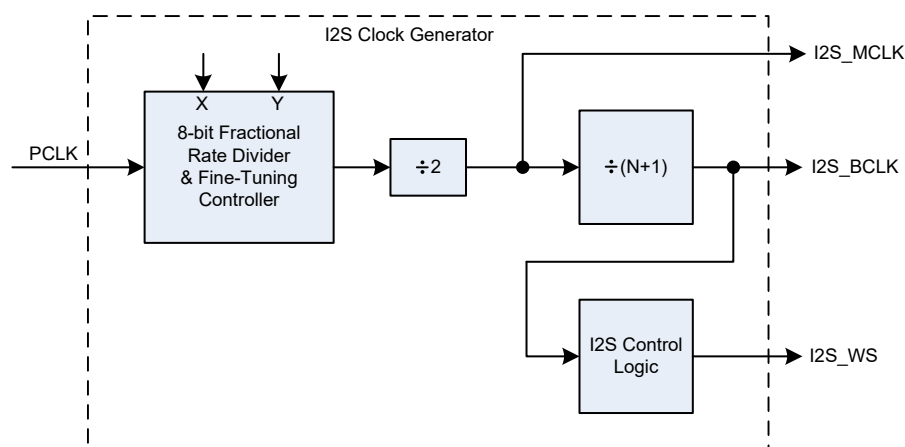

Figure 201. I²S Clock Generator Diagram
The main (I²S_MCLK) and bit clock (I²S_BCLK) rates for the I²S are determined by the values in the I2SCDR register. The required I²S bit clock rate setting depends on the desired audio sample rate desired, the format (stereo/mono) used, and the data size. The main clock rate (I²S_MCLK) is generated using a fractional rate divider which is a divided down PCLK frequency of the I²S. Values of the numerator (X) and the denominator (Y) must be chosen to produce a frequency twice that of the main clock (I²S_MCLK). The output frequency of the divider is divided by 2 in order to get the duty cycle of the output clock more even. The I²S clock generator block diagram is shown in Figure 201. The equation for the fractional rate divider is: